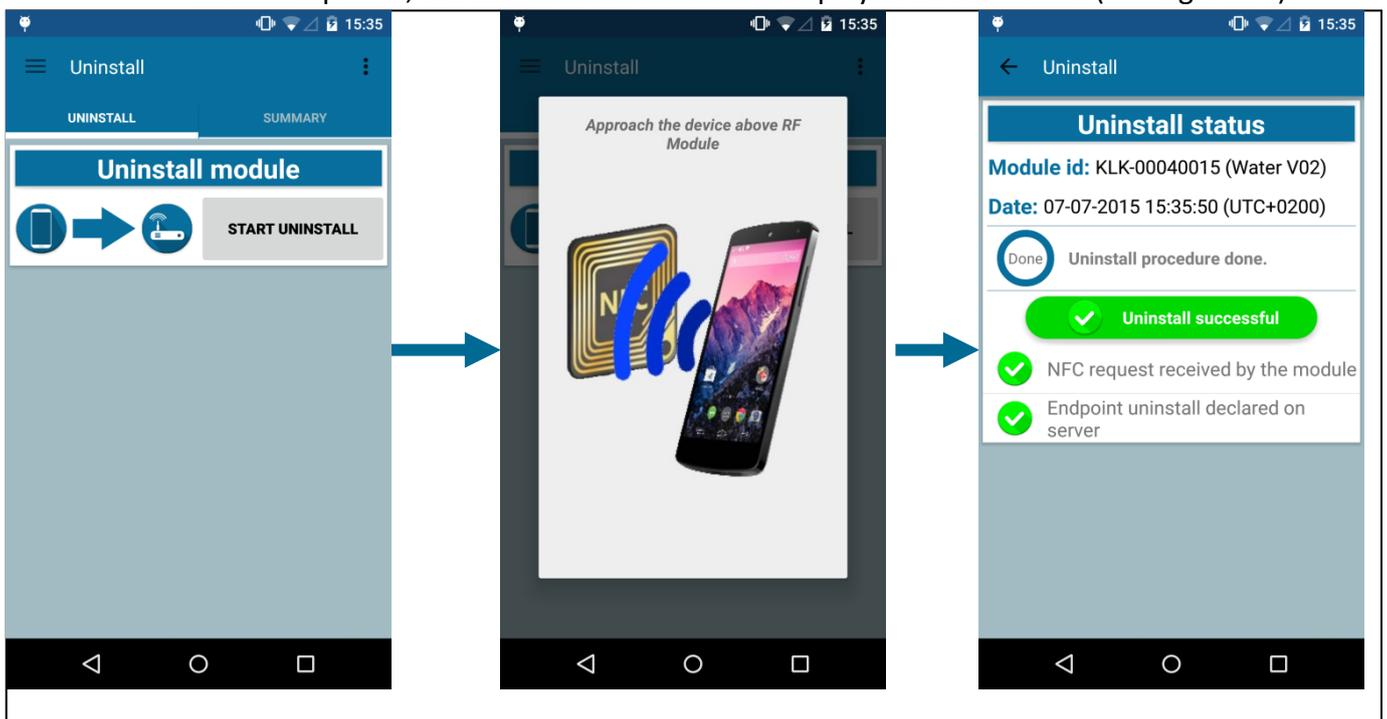

Figure 36: Uninstall operation
- Once completed, the status of the removal is displayed on the screen (see Figure 36).